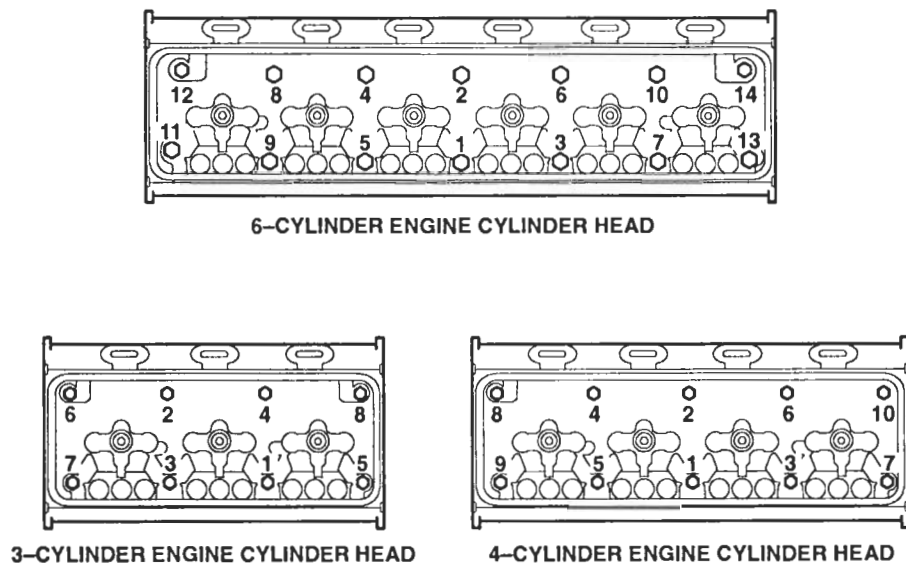

Figure 14. Cylinder Head Bolt Tightening Sequence
11. Tighten the bolts to 170–180 lb·ft (231–244 N·m) torque in 50 lb·ft (68 N·m) increments with a torque wrench, in the sequence (Figure 14.) Repeat the tightening sequence at least once, because the first bolts tightened in the sequence tend to lose significant clamp load during tightening of the remaining bolts. Apply a steady pressure for two or three seconds at the prescribed torque to allow the bolts to turn while the gaskets yield to their final designed thickness. Begin on the cam follower side of the head to take up tension in the push rod springs. Tighten the bolts to the high side of the torque specification, but do not exceed the limit or the bolts may stretch beyond their elastic limits. Attempting to tighten the bolts in one step may result in trouble and consequent loss of time in diagnosis and correction of difficulties, such as compression leaks, when the engine is put into operation.